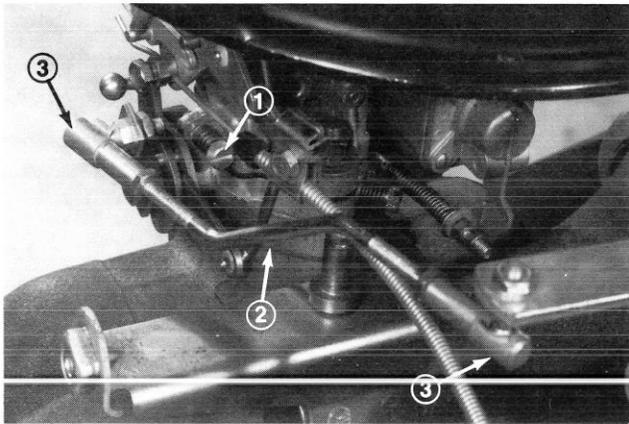
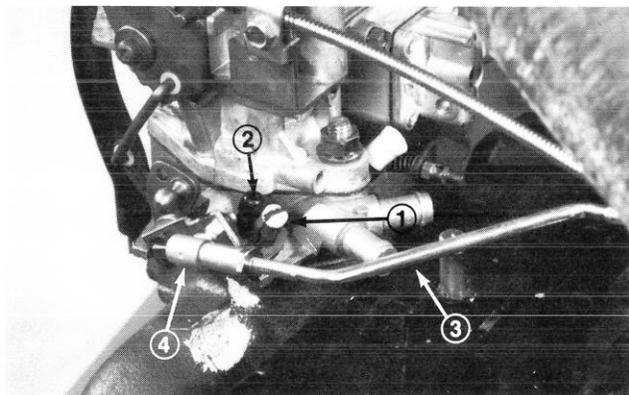
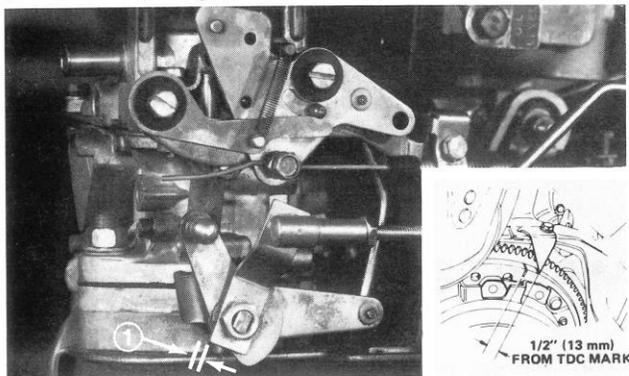
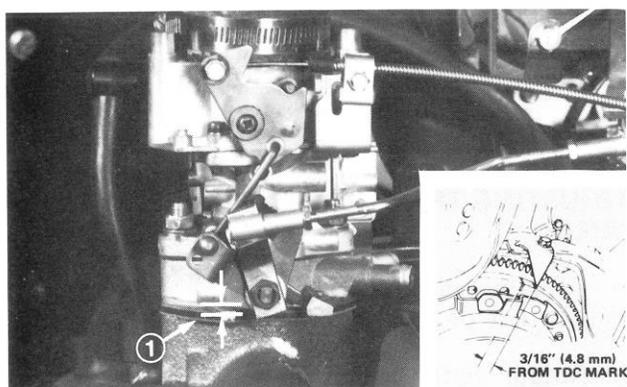

Figure 38
Figure 39
Figure 41
Figure 42
Two different style carburetors are used on the Groundsmaster 72; one with a single idle speed screw (Fig. 38) and one with an idle speed screw plus a choke idle speed screw (Fig. 39). Adjustment procedures for proper idle speed are identical.
Engine equipped with carburetors with a choke idle speed screw (Fig. 39) should be adjusted to operate at 2000 rpm when the engine is "cold started".
There are two timing marks on the flywheel. The saw-cut mark is TDC — top dead center — and the chisel mark, depending upon the carburetor used (Fig. 41, 42) is either 7° BTDC — before top dead center (Fig. 41) or 2° BTDC (Fig. 42). Time the engine to either 2° BTDC or 7° BTDC at 700 to 800 rpm. After timing, set idle speed back at 1450 to 1550 rpm. Idle speed must be 1450 - 1550 rpm to prevent damage to the transmission.
1. Move throttle control to FAST position and open hood. Check between the throttle arm and the stop on carburetor base to make sure there is 1/32 inch (0.794 mm) gap (Fig. 41 or 42). If gap is not correct, adjust throttle rod (Fig. 38 or 39) by turning ball joint ends until gap is 1/32 inch (0.794 mm). If gap is correct, proceed to step 2.
2. Start engine and move throttle to SLOW position. Allow engine to warm up to normal operating temperature and rotate idle screw (Fig. 38 or 39) to set idle at 1450 to 1500 rpm.